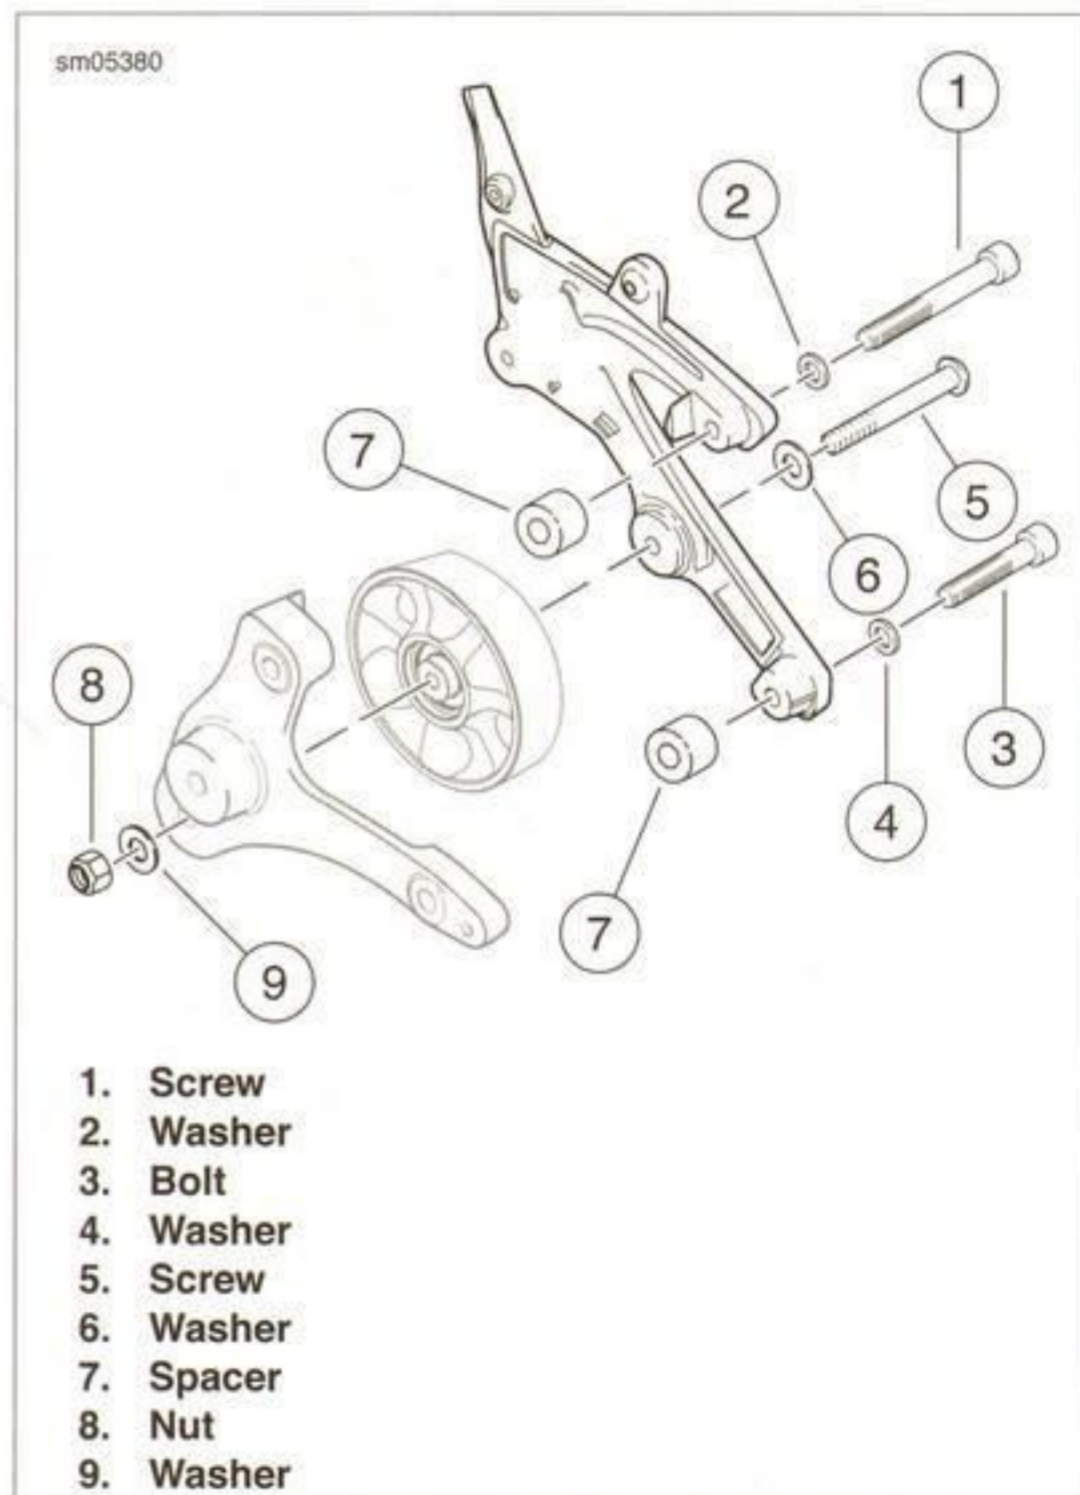

Figure 2-155. Left Side Rider Footpeg Mount
4. See Figure 2-155. To install, fit the drive belt idler pulley between the footpeg mount and the idler bracket with the bolt (5) and washer (6). See 6.11 DRIVE BELT AND IDLER PULLEY, Idler.
5. Fit the washer (9) and thread on the locknut (8).
7. Install the mount fasteners (1, 3) and washers (2, 4) through the spacers (5) into the idler bracket.